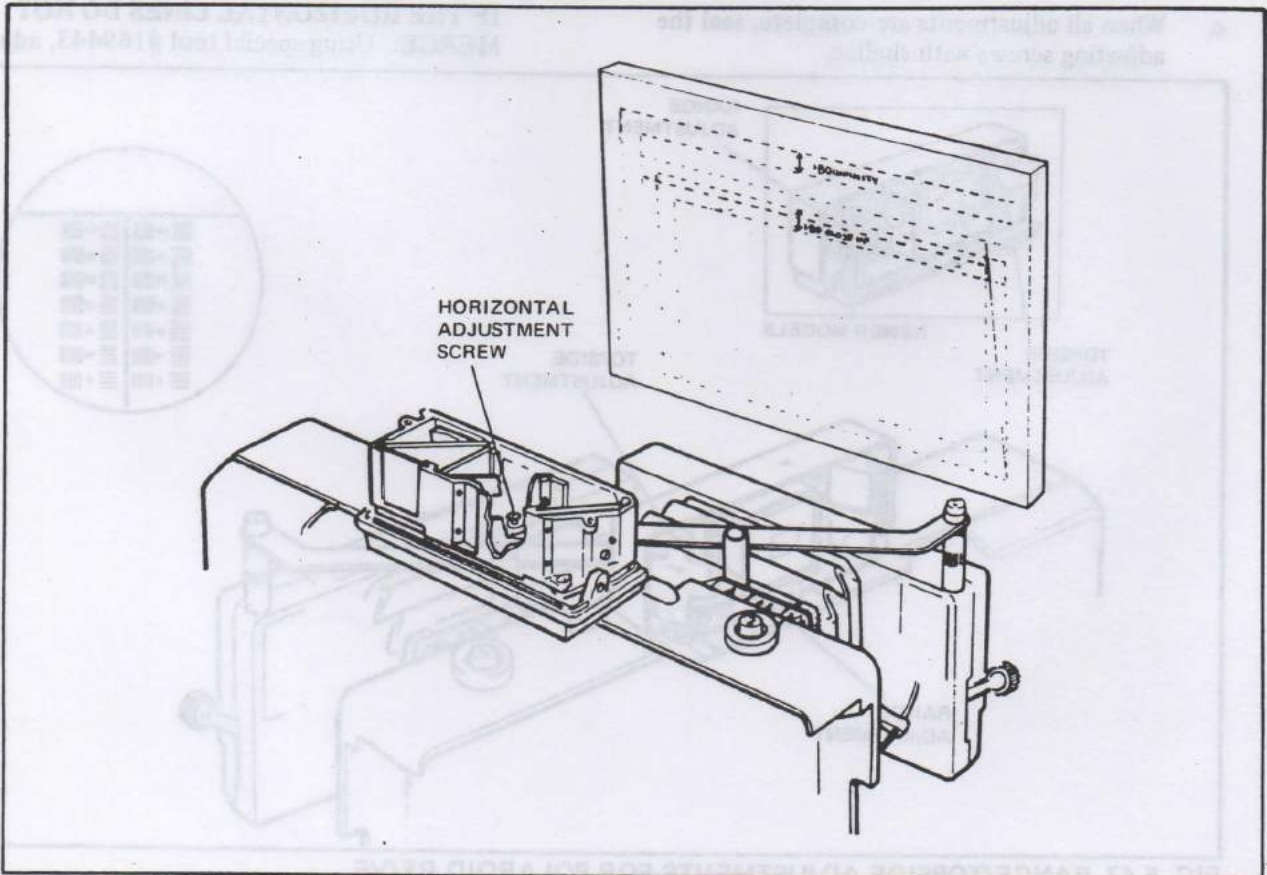

FIG. 5.49 PARALLAX HORIZONTAL ADJUSTMENT FOR ZEISS IKON RF/VF
- c. Observe the frame target through the RF/VF eye lens. Using a jeweler's screwdriver, turn the horizontal adjusting screw until the top horizontal line of the yellow projected frame image is within the area bounded by the 180 close-up target lines when the focus bar is set to CLOSE-UP (Figure 5-49). Also, adjust the same screw until the top horizontal line of the yellow projected frame image is within the area bounded by the 180 infinity target lines when the focus bar is set to INFINITY. When these adjustments have been completed, seal the adjusting screw with shellac. Don't let the shellac drip into the cantilever assembly. (Parallax horizontal